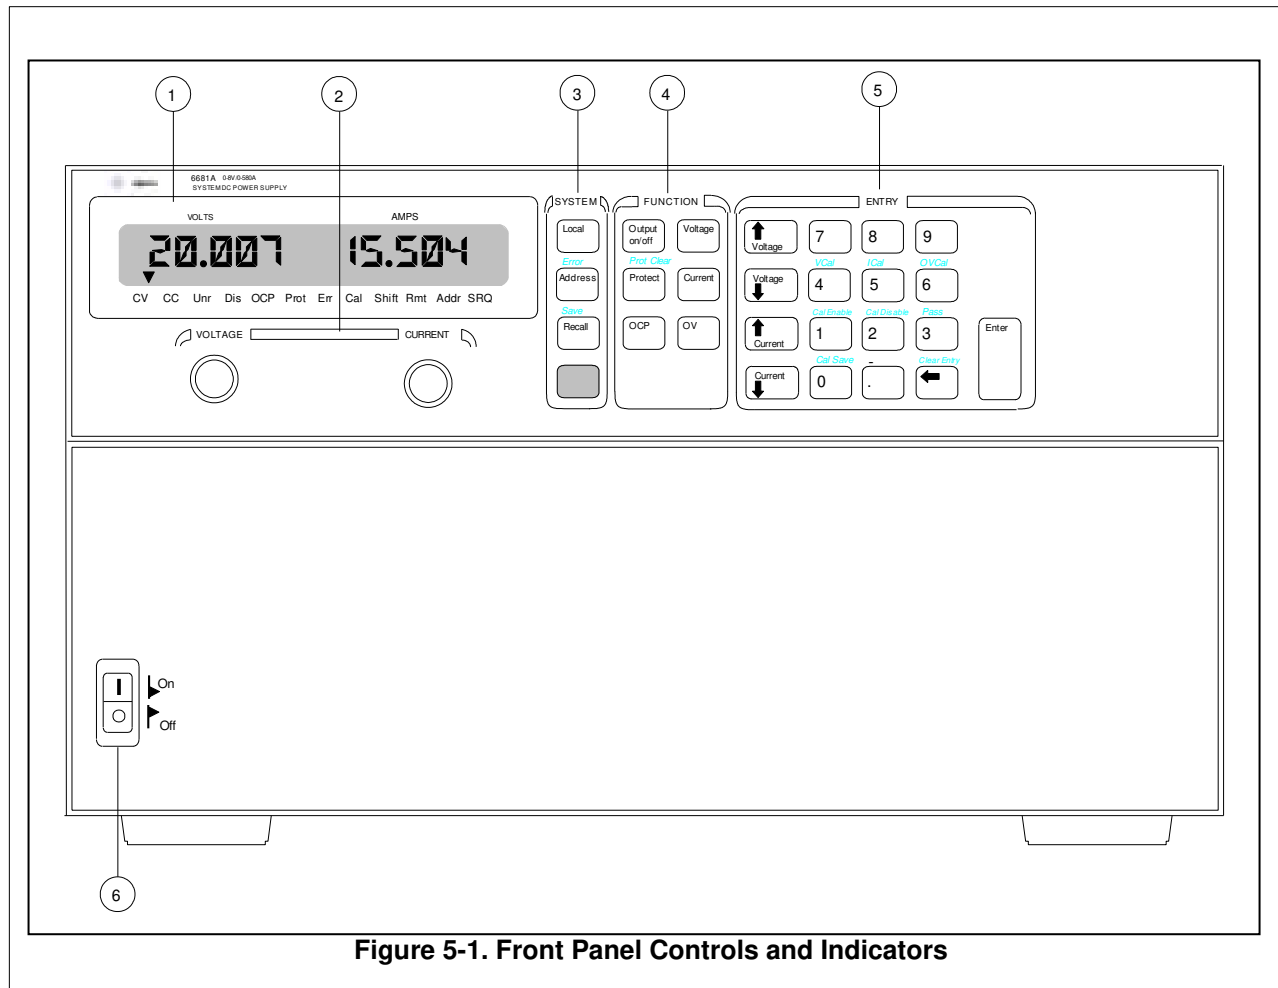

Figure 5-1. Front Panel Controls and Indicators
The front panel is summarized in Figure 5-1 and Table 5-1. Note that the panel is organized as follows:
- ① LCD display (including annunciators)
- ② Output VOLTAGE and CURRENT rotary (RPG) knobs
- ③ SYSTEM keypad
- ④ FUNCTION keypad
- ⑤ ENTRY keypad
- ⑥ Power (LINE) switch
Some keys have two functions. For example, the System  key (3, Figure 5-1) can be used either to recall a stored operating state or to  (store) an operating state. The first operation is shown **on** the key and the second (shifted) operation is shown in blue **above** the key. In order to do a shifted operation, first press the solid blue key, which is unlabeled but shown throughout this manual as .
Table 5-1. Front Panel Controls and Indicators (see Figure 5-1)